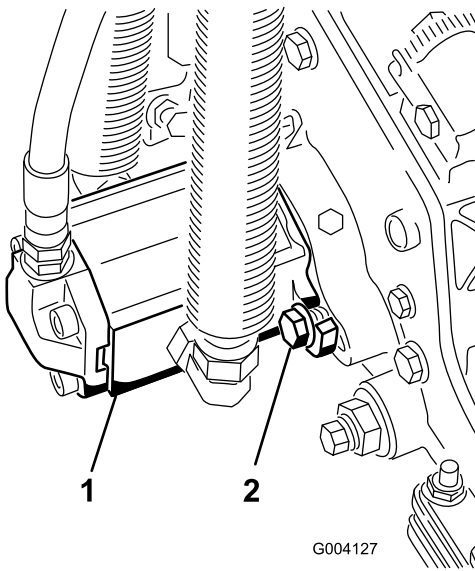

Figure 13
16. Install the motor by rotating it clockwise so that the motor flanges clear the bolts (Figure 13). Rotate the motor counterclockwise until the flanges encircle the bolts, then tighten the bolts.